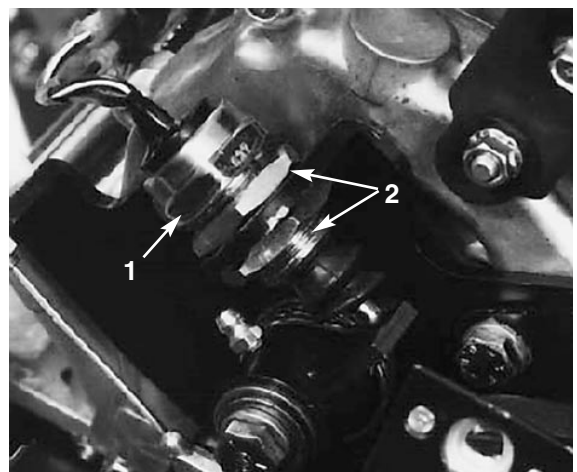

Figure 38
2. Loosen (2) switch mounting nuts (Fig. 38) and move the switch until the switch plunger is depressed $.4.57 \pm .1.5\text{mm}$ (switch closed).
2. Using a 7/8" standard wrench, back out the spring tension screw, until the thrust washer is no longer tensioned against the bedbar (Fig. 38).